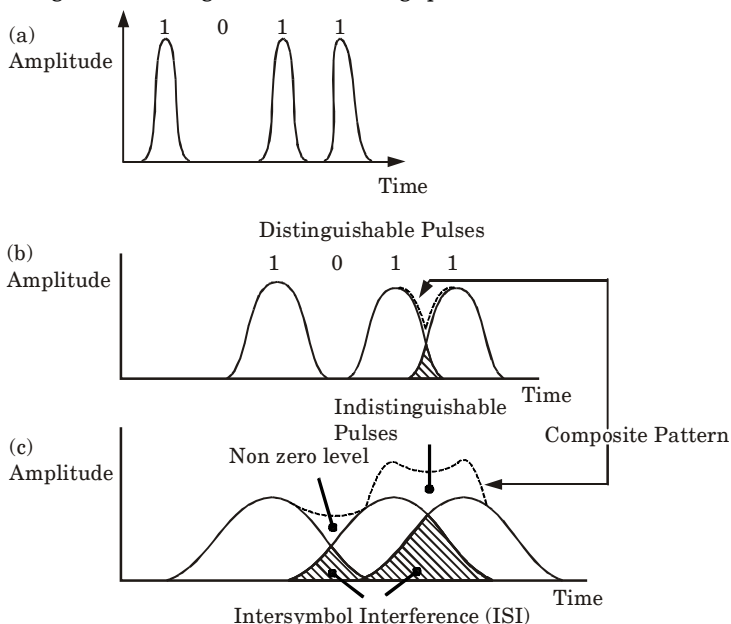

Fig. 2.8.1. An illustration using the digital bit pattern 1011 of the broadening of light pulses as they are transmitted.
- The major implementation of optical fiber transmission involves some form of digital modulation then dispersion mechanisms within the fiber cause broadening of the transmitted light pulses as they travel along the channel. This phenomenon is shown in the Fig. 2.8.1.
- From Fig. 2.8.1 it may be observed that each pulse broadens and overlaps with its neighbors, eventually becomes indistinguishable at the receiver input the effect is known as intersymbol interference (ISI).